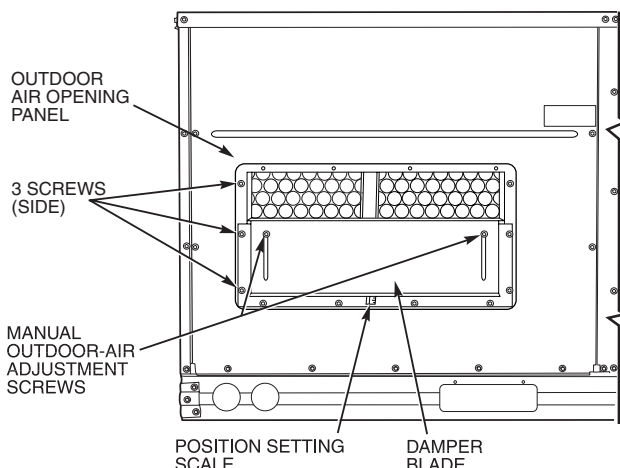
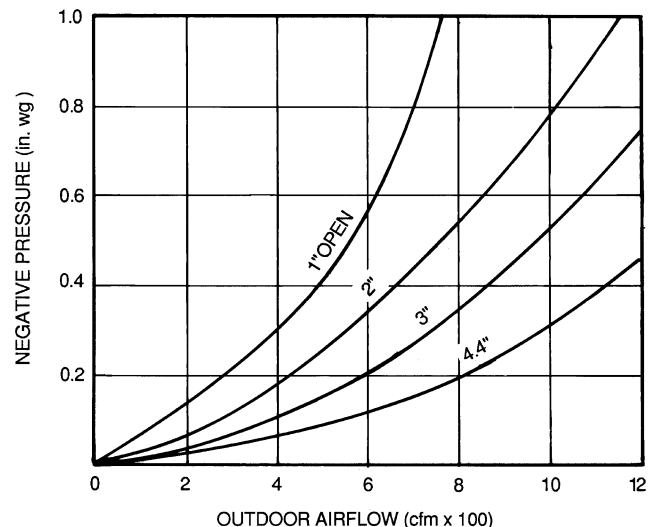

Fig. 12 — Damper Panel with Manual Outdoor-Air Damper Installed
Fig. 15 — Outdoor-Air Damper Position Setting
2. Remove filter access panel by raising panel and swinging panel outward. Panel is now disengaged from track and can be removed. No tools are required to remove the filter access panel. Remove outdoor-air opening panel. Save panels and screws. See Fig. 12.
8. Adjusting the manual outdoor-air adjustment screws on the front of the damper blade. See Fig. 12. Slide blade vertically until it is in the appropriate position determined by Fig. 15. Tighten screws.